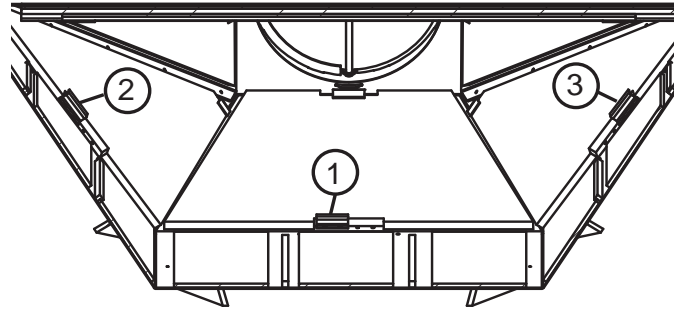

FIG.1
- A. Remove screws from brackets and slide rear panel out of smoke chamber. Repeat for both side panels. **(FIG.1)**
F. Slide side panels then rear panel into smoke chamber and install brackets. **(FIG.1)**